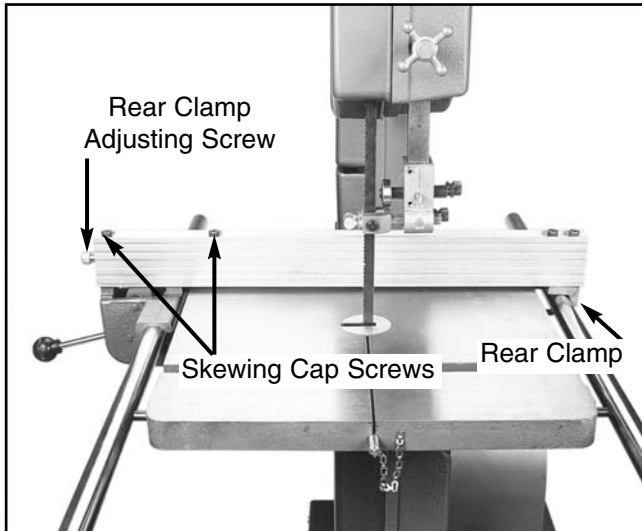

Figure 27. Fence controls.
1. Back out the rear clamp adjusting screw several turns and put the locking lever in the locked position as shown in **Figure 27**.
4. Loosen the two skewing cap screws on top of the fence. **Figure 27**.